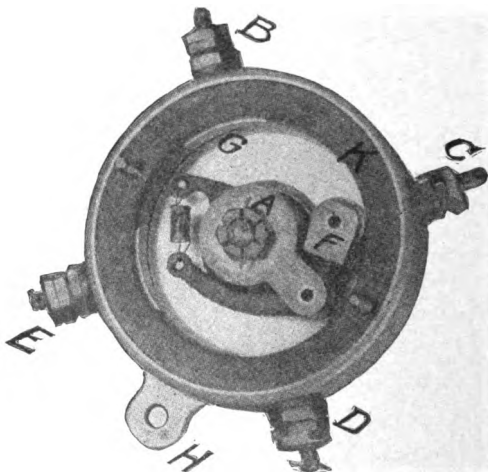

FIG. 35.— Splitdorf Timer, La Costa Type.
*Splitdorf Timer, La Costa Type.* Fig. 35 illustrates the La Costa type of timer. The shaft *A* which is revolved by gearing from the cam shaft, is grounded, and carries the roller contact *F*. The terminals *B*, *C*, *D*, and *E*, are insulated from the rest of the timer. The primaries for each cylinder lead from the coil to these terminals. As the roller *F* makes contact with the plate *G* of each terminal it completes the primary circuit of the corresponding